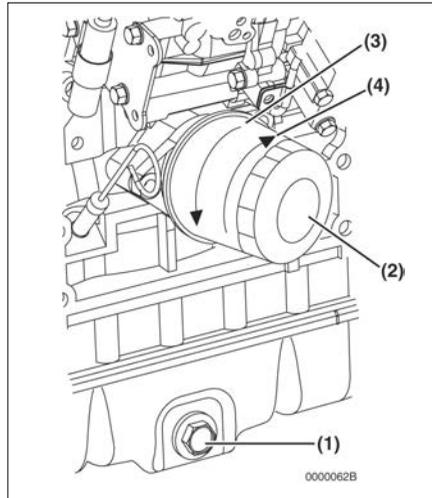

Figure 5-2
6. Remove the oil drain plug (**Figure 5-2, (1)**) from the engine oil pan. Allow oil to drain.
7. After all oil has been drained from the engine, reinstall the oil drain plug (**Figure 5-2, (1)**) and tighten to 139.8 - 47.0 ft-lb (53.9 - 63.7 N·m; 5.5 - 6.5 kgf·m).
1. Turn the engine oil filter (**Figure 5-2, (2)**) counterclockwise (**Figure 5-2, (3)**) using a filter wrench.
3. Lightly coat the gasket on the new oil filter with engine oil. Install the new engine oil filter manually by turning it clockwise (**Figure 5-2, (4)**) until it contacts the mounting surface. Tighten to 14 - 17 ft-lb (19.6 - 23.5 N·m; 2.0 - 2.4 kgf·m) or one additional turn using the filter wrench.